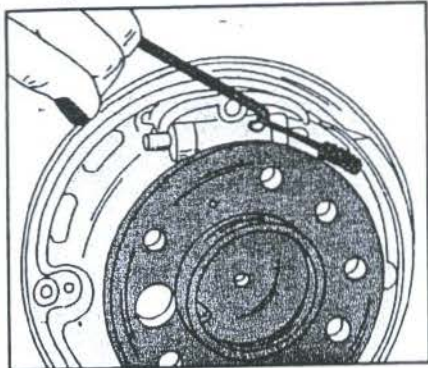

Fig. 7.16 – Return springs can be fitted with a wire hook.
- Engage the upper return spring to the rear brake shoe. Use a hook, as shown in Fig. 7.16 and stretch the spring until it can be engaged.
- Fit the second brake shoe, engage the lower return springs and set the brake shoes in the correct position. Fit the return spring in the manner shown in Fig. 7.16.